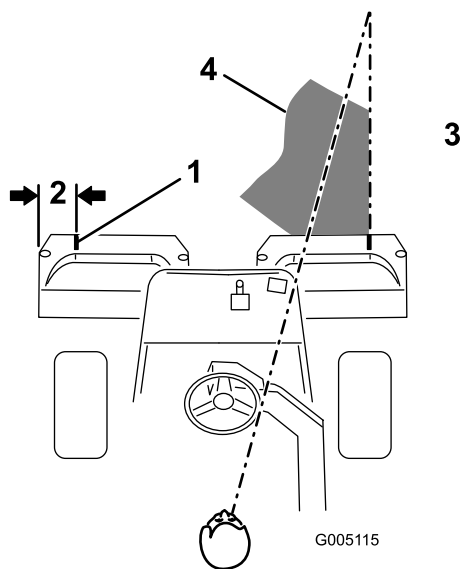
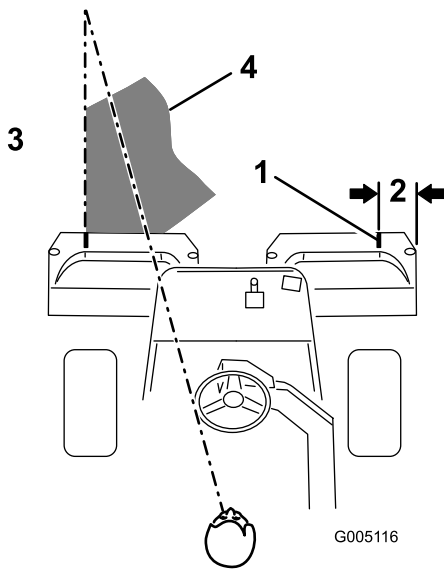

Figure 33
Figure 34
2. Either place a strip of white tape or paint a line onto each basket paralleling the outer edge of each basket (Figure 33).
- Overlap a minimal amount with the previous cut on return passes. To assist in maintaining a straight line across the green and keep the machine an equal distance from the edge of the previous cut, establish an imaginary sight line approximately 6 to 10 ft (1.8 to 3 m) ahead of the machine to the edge of the uncut portion of the green (Figure 33 and Figure 34). Some find it useful to include the outer edge of the steering wheel as part of the sight line; i.e. keep the steering wheel edge aligned with a point that is always kept the same distance away from the front of the machine (Figure 33 and Figure 34).